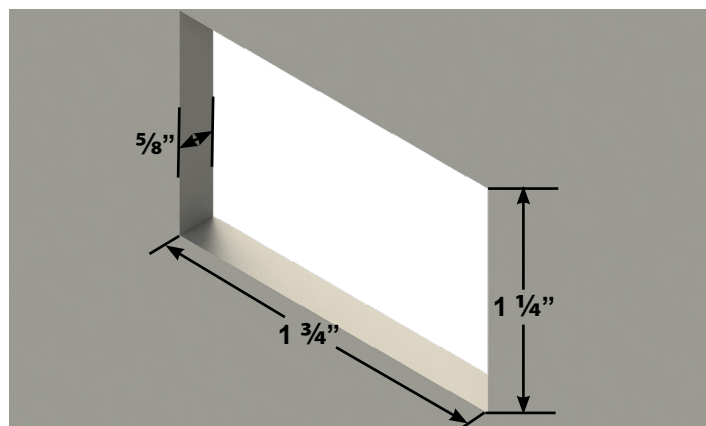

Fig.27
2. Cut a hole in the desired location 1 3/4" wide by 1 1/4" high and have a depth of 5/8" (Fig.27) so the top and bottom horizontal cuts are parallel to floor of the compartment or floor of the unit.